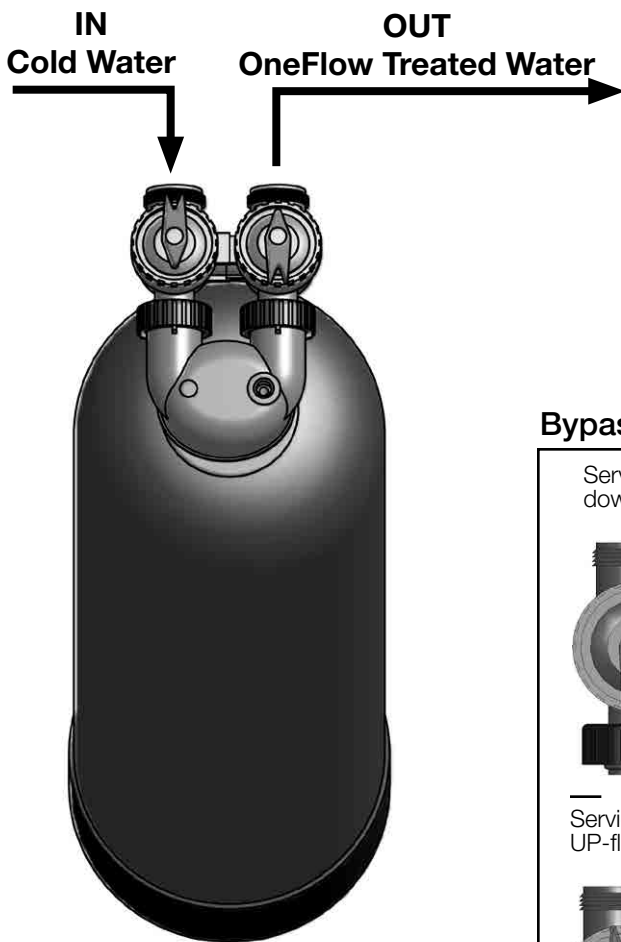

Figure 2.
- Because the OneFlow system operates in the UP-flow mode, the tank connections are opposite of traditional installations. Please follow water flow diagram illustrated in Figure 2.
5. Connect the cold water supply to the inlet of the OneFlow system. NOTE: The OneFlow system operates in the UP-flow mode which is opposite of a conventional softener. Follow the plumbing diagram in Figure 2.